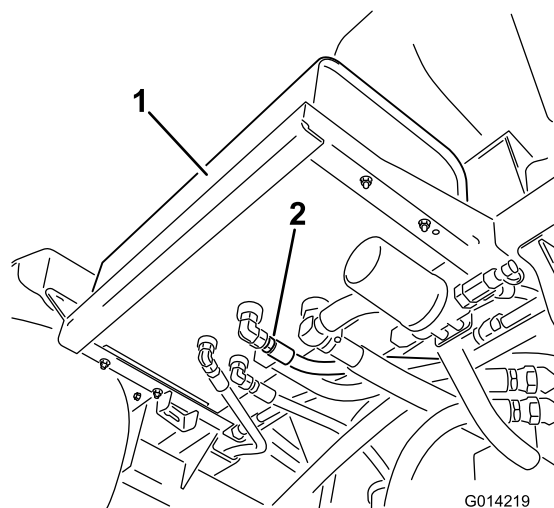

Figure 144
2. Clean the area around a hydraulic-hose fitting on the bottom of the hydraulic-fluid tank (Figure 144).
4. Remove the hose fitting from the tank, allowing the fluid to drain into the pan (Figure 144).